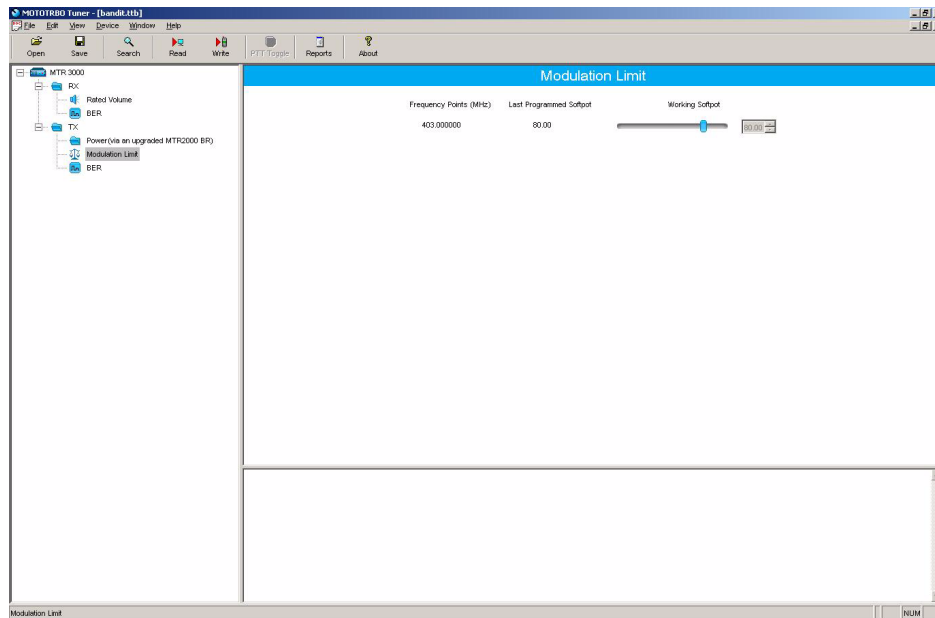

Figure 13-11 Tx Menu tree (Tuning Procedure with no Tx data)
- Select “Modulation Limit” under the Tx menu in the tree view (Refer to Figure 13-11).